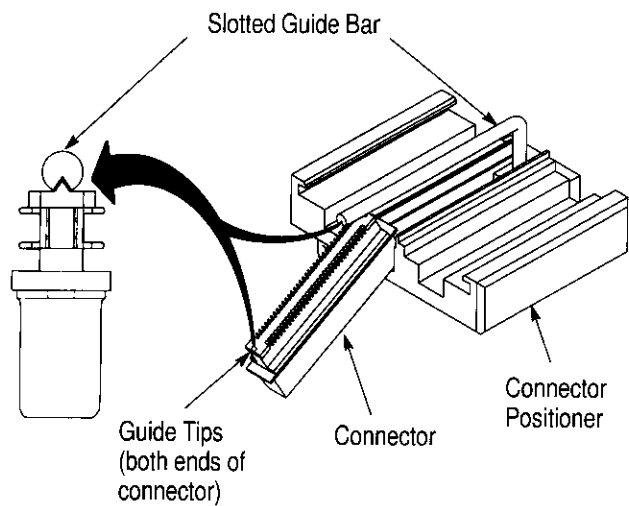

Figure 11
Once all wires have been properly trimmed, the connector is loaded into the connector positioner as shown in Figure 11. The connector is inserted into the positioner so that the guide tips (at both ends of connector) fit into the groove of the slotted guide bar, as the connector is pushed into the positioner. The connector is inserted until it bottoms against the back stop of the positioner.
9. Place the connector into the connector positioner. This is done by turning the positioner upside down and placing the mating face of the connector onto the lower surface of the slot and pivoting the connector up and into the slot. Make sure the guide tip on the connector enters the slot in the slotted guide bar on the positioner. Refer to Figure 11. The connector should be oriented per the applicable wiring application.